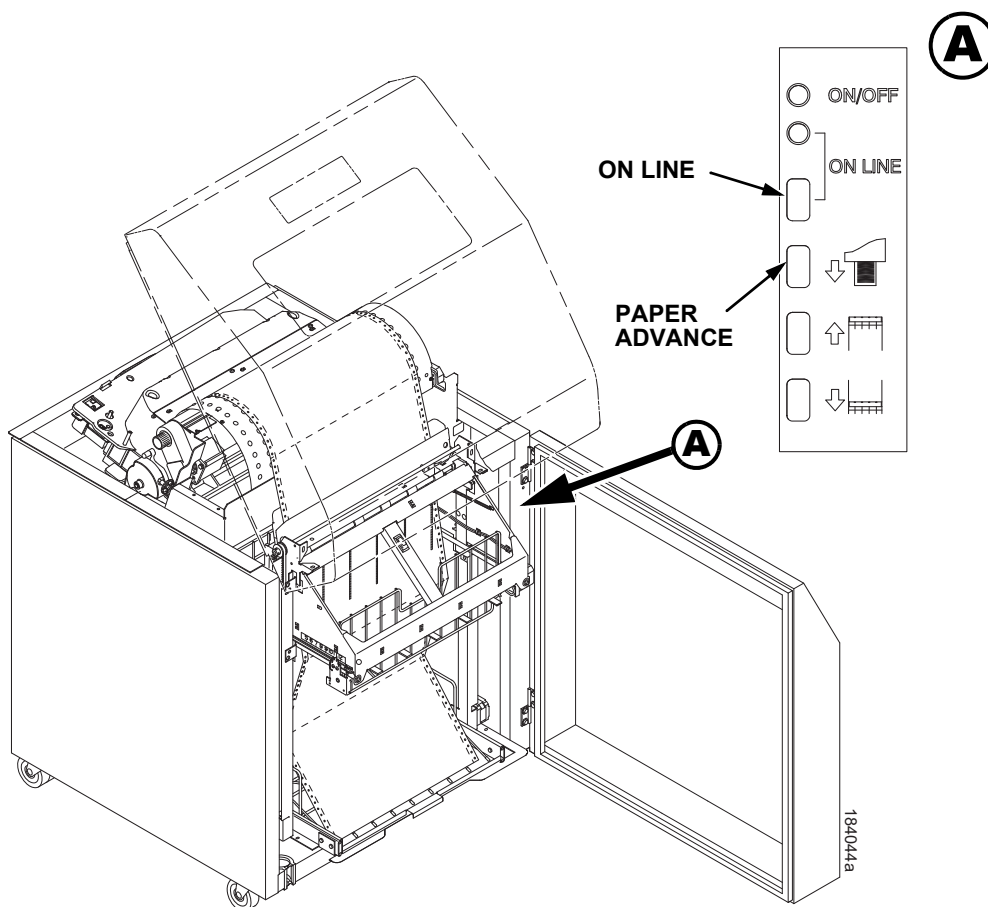

Figure 53. Stacking Paper on the Wire Paper Tent
1. Press the **PAPER ADVANCE** key and hand feed the paper down into the paper throat of the stacker. Continue to advance the paper until it reaches the paper tent (if installed) and feed three to five extra sheets into the stacker. Make sure the paper passes through the paper throat of the stacker. (Figure 53.)
2. Stack the extra pages on top of the wire paper tent (if installed), making sure the paper bends with the natural fold. (Figure 53.)